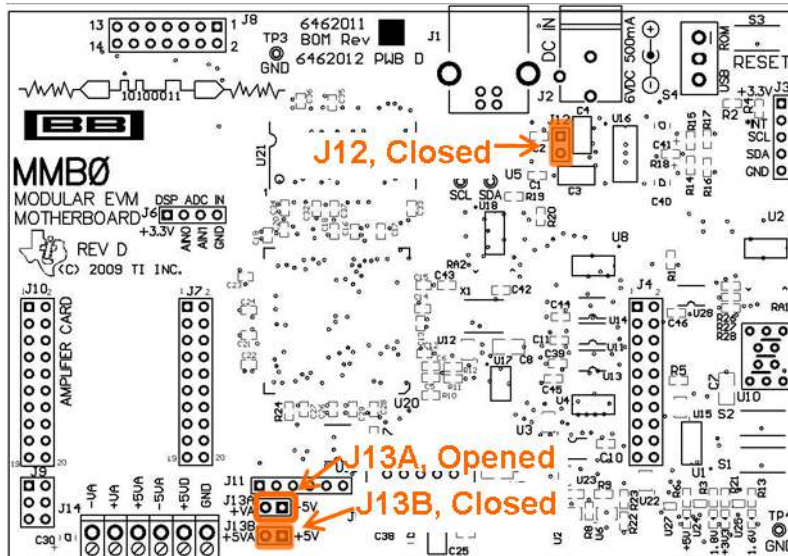

Figure 7. MMB0 Motherboard Jumper Configuration
- Step 2. Set the J12 to closed, J13A to open, and J13B to closed on the MMB0 as shown in Figure 7.